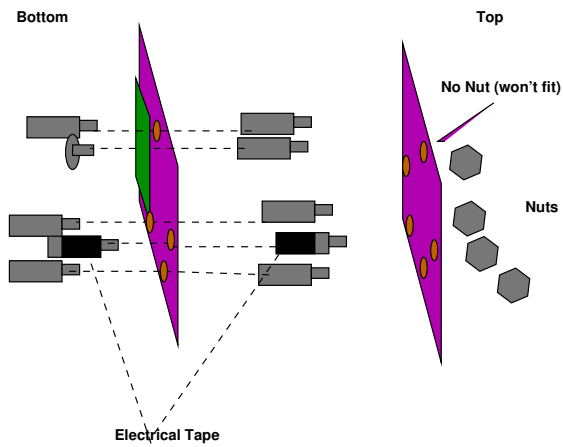

Figure 8: Rough standoff diagram.
- (a) There is a rough diagram in Figure 8.